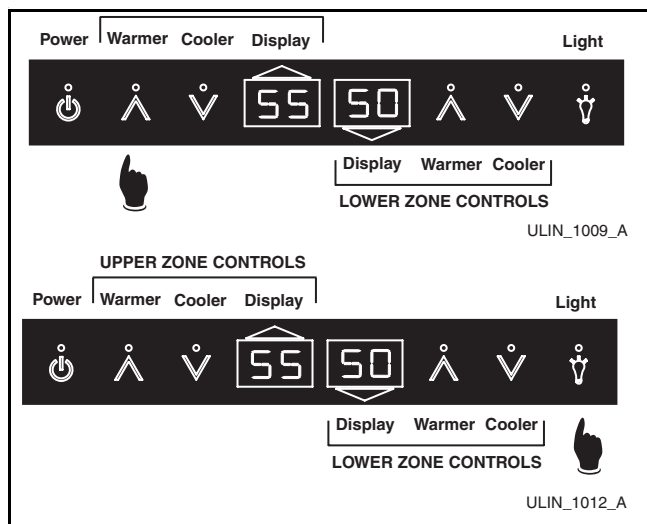

Figure 5. Adjusting Set-Point Temperature
1. Press and release the desired zone WARMER icon to put the controller in the SET TEMPERATURE mode. The current range symbol will show on the display (top, Figure 5).
3. When the desired range is displayed, press the LIGHT icon to display the current set-point temperature (bottom, Figure 5).